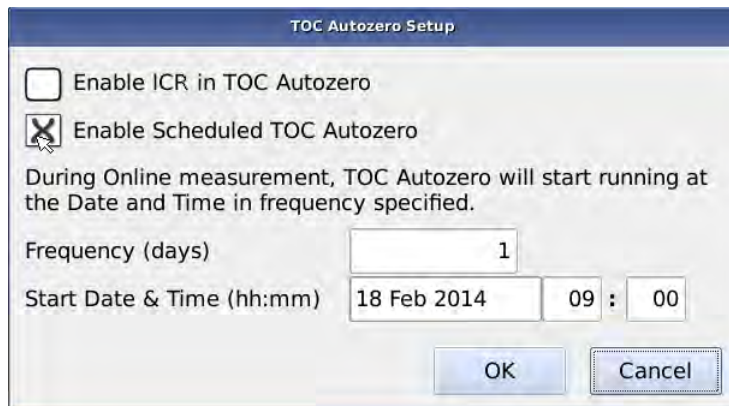

Figure 40: TOC Autozero Setup
(Optional On-Line Only) To enable scheduled TOC Autozero operations, select the TOC Autozero protocol and press **SETUP** to display the *TOC Autozero Setup* dialog box (Figure 40). Select the option and set the Frequency and Start Date and Time.
9. (Optional ICR Unit Only) If you want to run the TOC Autozero with the ICR enabled, press **SETUP**. The *TOC Autozero Setup* dialog box appears. See Figure 40: TOC Autozero Setup on page 155.